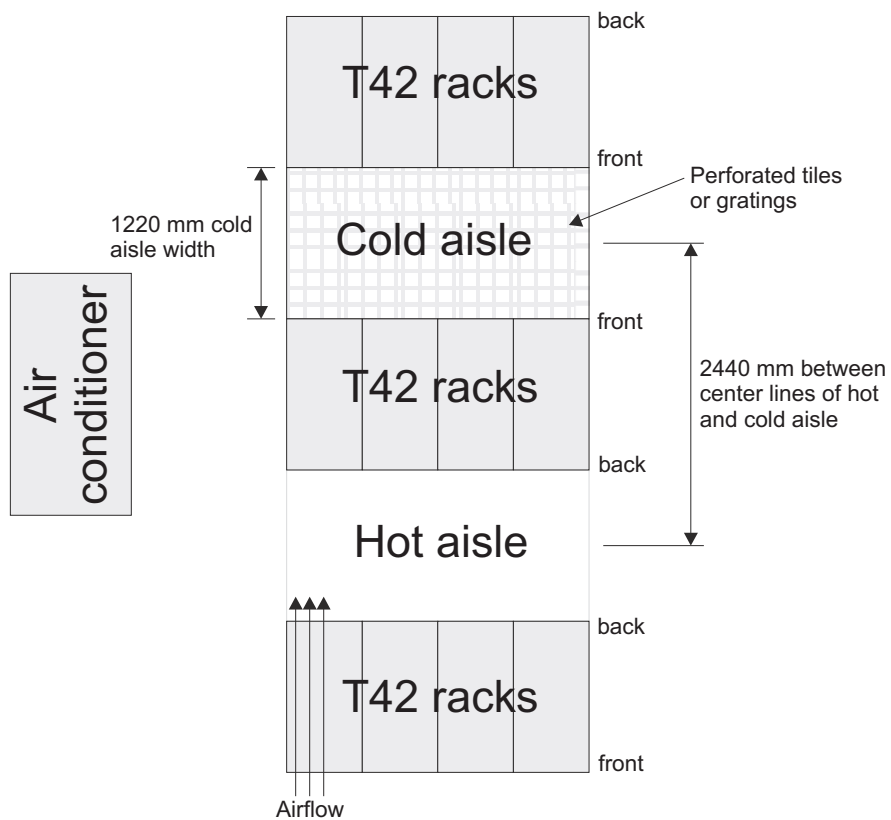

Figure 14. Example of cold aisle/hot aisle rack configuration
- Air enters at the front of the rack and leaves at the back. To prevent the air that is leaving the rack from entering the intake of another piece of equipment, you must position the racks in alternate rows, back-to-back and front-to-front. This arrangement is known as *cold aisle and hot aisle* and is shown in Figure 14 on page 22.